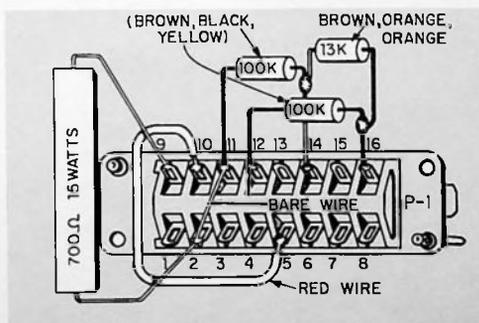

FIGURE 1. TEST PLUG
- Install a suitable preamp in your scope. Note: the plug-in connector of the preamp closes the heater circuit of the delay relay in the power supply of the scope. If for some special reason you wish to operate the scope without a preamp, use the extra 16-pin plug supplied with the scope and wire as shown in Figure 1.